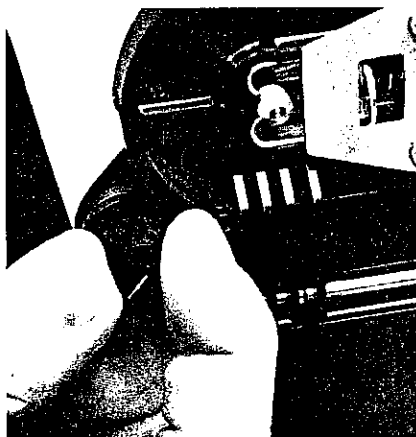

Figure 32
9. Turn the small knob at the upper left hand side of the platen assembly to put a small amount of tension on the paper. It should be snug against the platen. (Figure 32.)